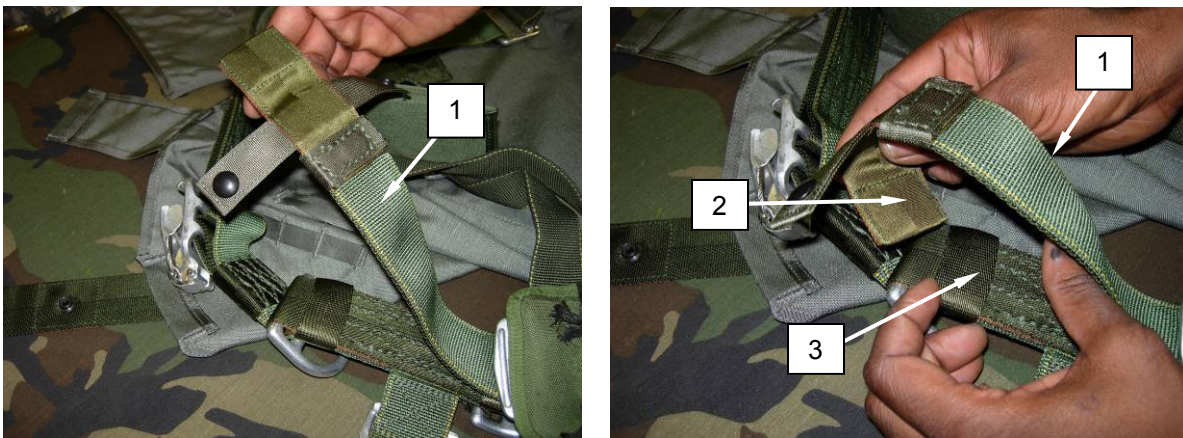

Figure 27. Upper Main Lift Web Assemblies Placed on Small Sizing Setting.
23. Place both main lift web assemblies (Figure 27, Item 1) on the small sizing setting. Insert the tuck tab stiffener (Figure 27, Item 1) into the small size retainer (Figure 27, Item 2).